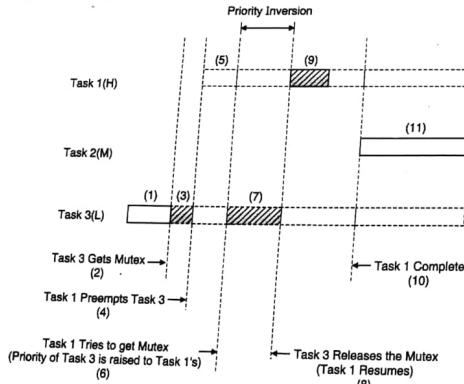

Fig. 13.6.2 : Priority inheritance
1. **Priority Inheritance :** In this case the lower priority task is given the priority of the highest task requiring a particular resource and hence not allowing a medium level priority task to preempt. Fig. 13.6.2 shows the concept